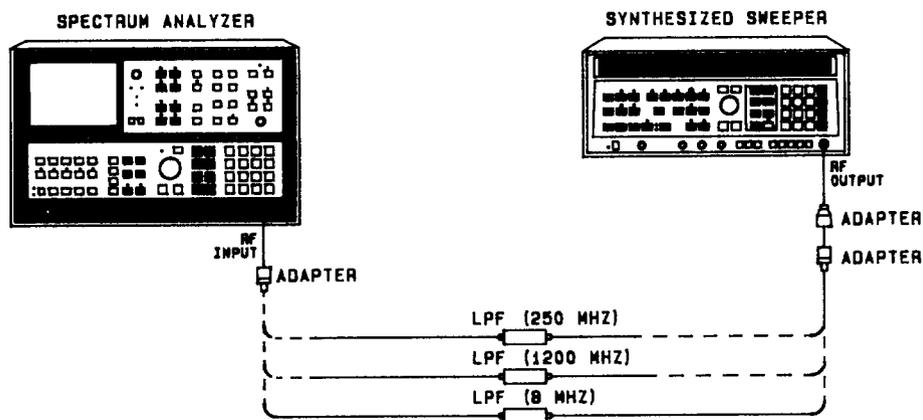

FIGURE 28. HARMONIC DISTORTION TEST SETUP
Equipment listed is for two test setups, Figures 28 and 29.
- Connect equipment as shown in Figure 28, using the 250 MHz low-pass filter. Adjust the synthesized sweeper output level to place peak of signal trace at the top graticule line.